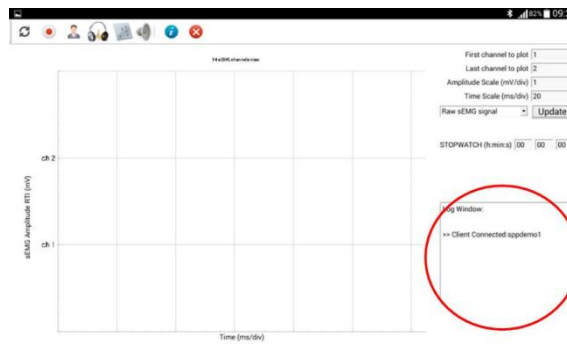

FIG. 8.8: New sensor connected. The red circle indicates the connection status with the probe.
3. The Due or DueBio probes automatically connect to the mobile device. Wait until all the probes are connected. It is possible to observe the connection status in the register window of the App (Figure 8.8, red circle);